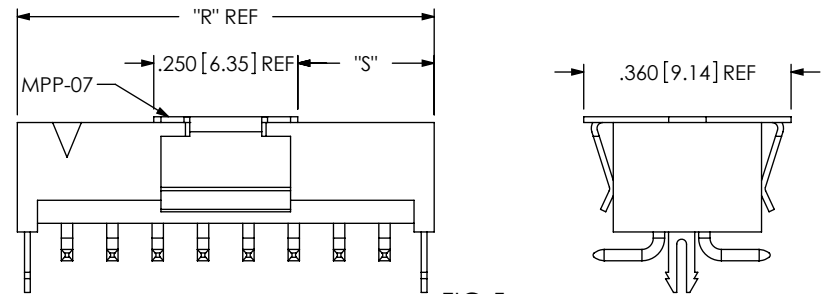

FIG 5
-M: METAL PICK AND PLACE PAD (USE MPP-07, SEE FIG 5, SHT 2) (-SM OPTION ONLY)